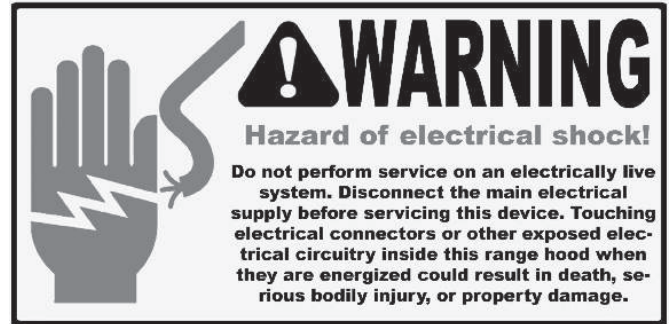
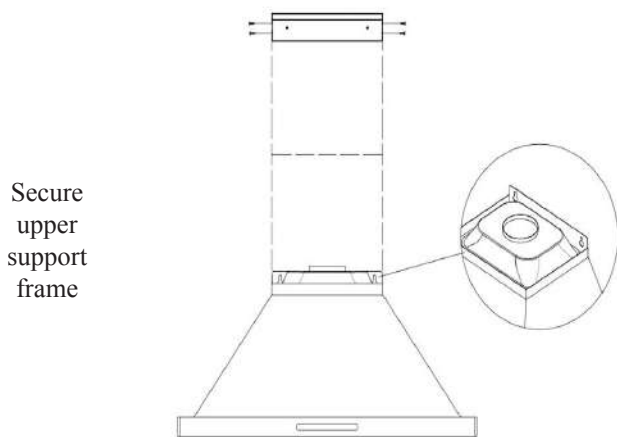

Figure 3A
Figure 3B
2. Make sure the range hood is level and not tilted. Mark the locations of the hanging bracket holes on the wall as shown in Figure 3A and Figure 3B.